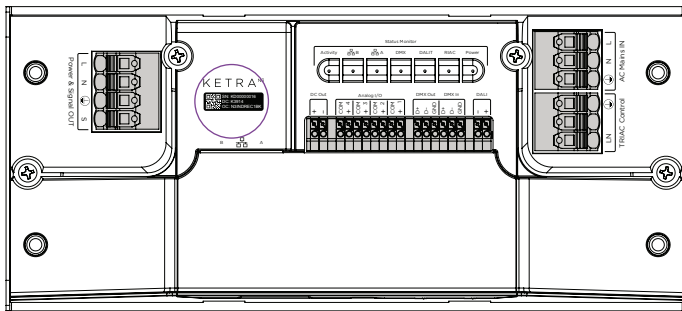

fig. 5
- We recommend noting the serial number, location, and fixtures connected on installation drawings. This can help with future programming and configuration. (The serial number can be found on the top of the control board cover - see fig. 5).